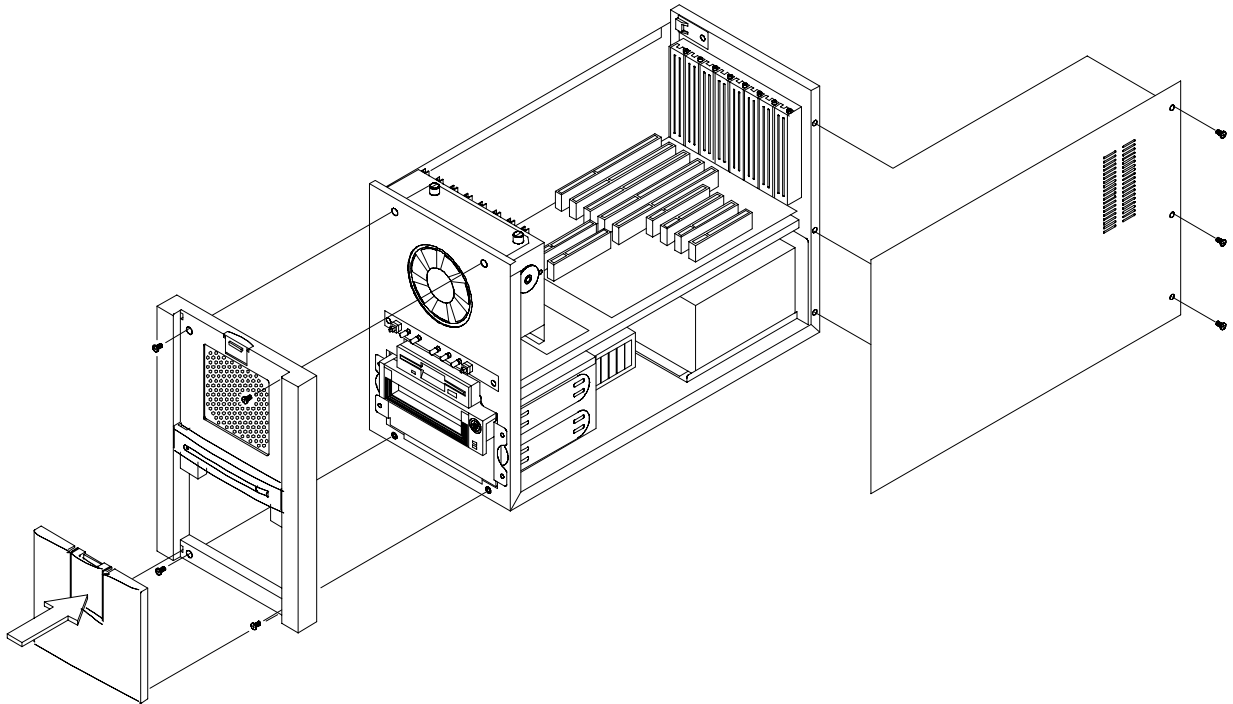

Figure 2-6: Removing the cover for disk drive installation
1. Remove the disk drive's cover by pushing the square area on the lower cover of the front panel and then opening the filter cover, as shown in Figure 2-6 below.
2. Unscrew the 4 screws on the front panel, and take off the plastic panel from the chassis. Unscrew the 3 screws on the side cover and slide it toward the rear. Refer to Figure 2-6 below.